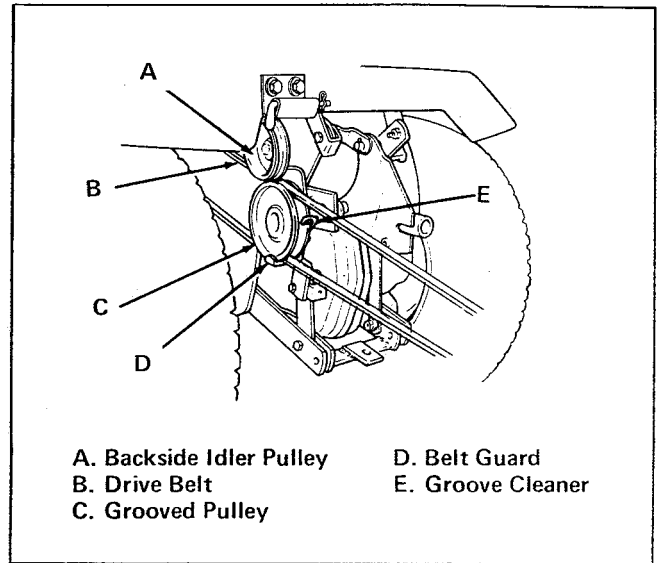

Figure 15. Drive Belt Replacement
2. Loosen bolt that secures belt guard (item D, figure 15) and groove cleaner (item E).
The backside idler pulley (item A, figure 15) must be adjusted to keep the drive belt in the grooved pulley (item C). Adjust this pulley as follows:
The groove cleaner (item E, figure 15) must be adjusted to keep the grooved pulley (item C) free of stones and dirt. Adjust the groove cleaner as follows: